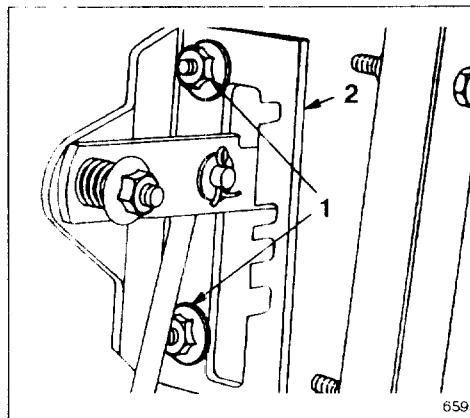
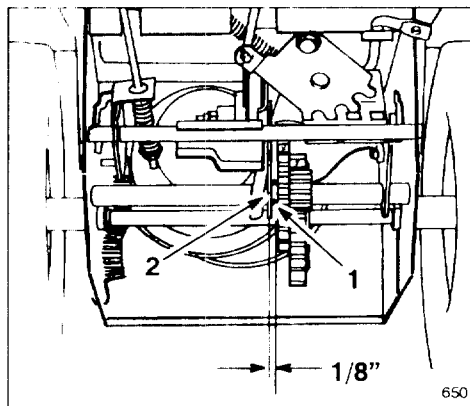

Figure 27
Figure 28
selector plate to move freely for adjustment (Fig. 27).
4. Shift speed selector to third gear and push down on speed selector plate to move drive assembly to the right. Drive assembly should be 1/8" from roll pin; if not, slide selector plate (Fig. 27) until 1/8" dimension is correct (Fig. 28).